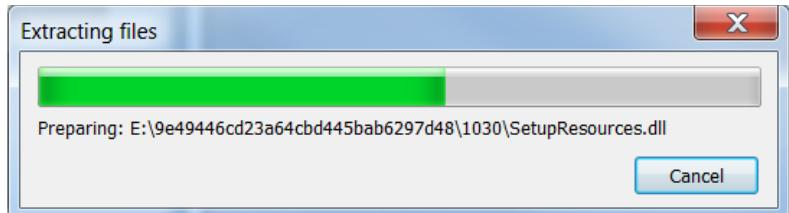

Figure 5-16. Extracting Files
12. During the installation process, some files are extracted, as shown in the example in Figure 5-16.